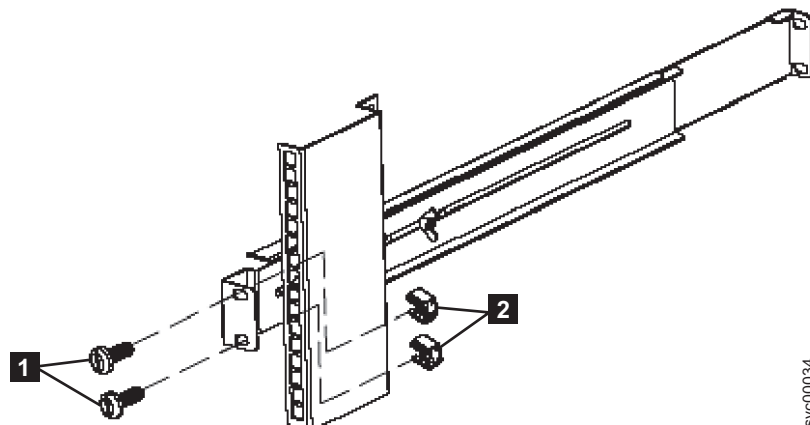

Figure 277. Removing the rear rail on the 2145-1U uninterruptible power supply
5. Remove the two M6 × 10 screws from the rear side of the rail (**1** in Figure 277) and the two clip nuts (**2**).